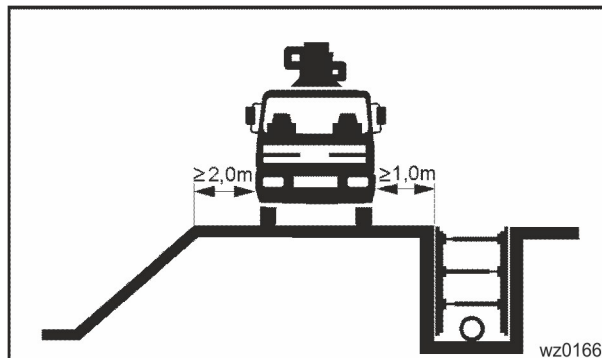

Fig. 128 Distances from excavation pits
- Maintain the prescribed safety distance from excavation pits (Fig. 128 Distances from excavation pits).